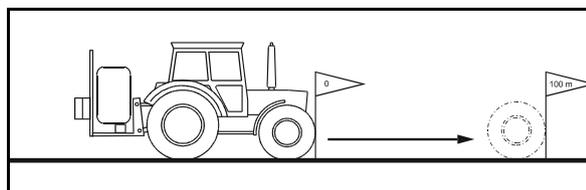

Fig. 44
2. Mark the start and end point (Fig. 44).